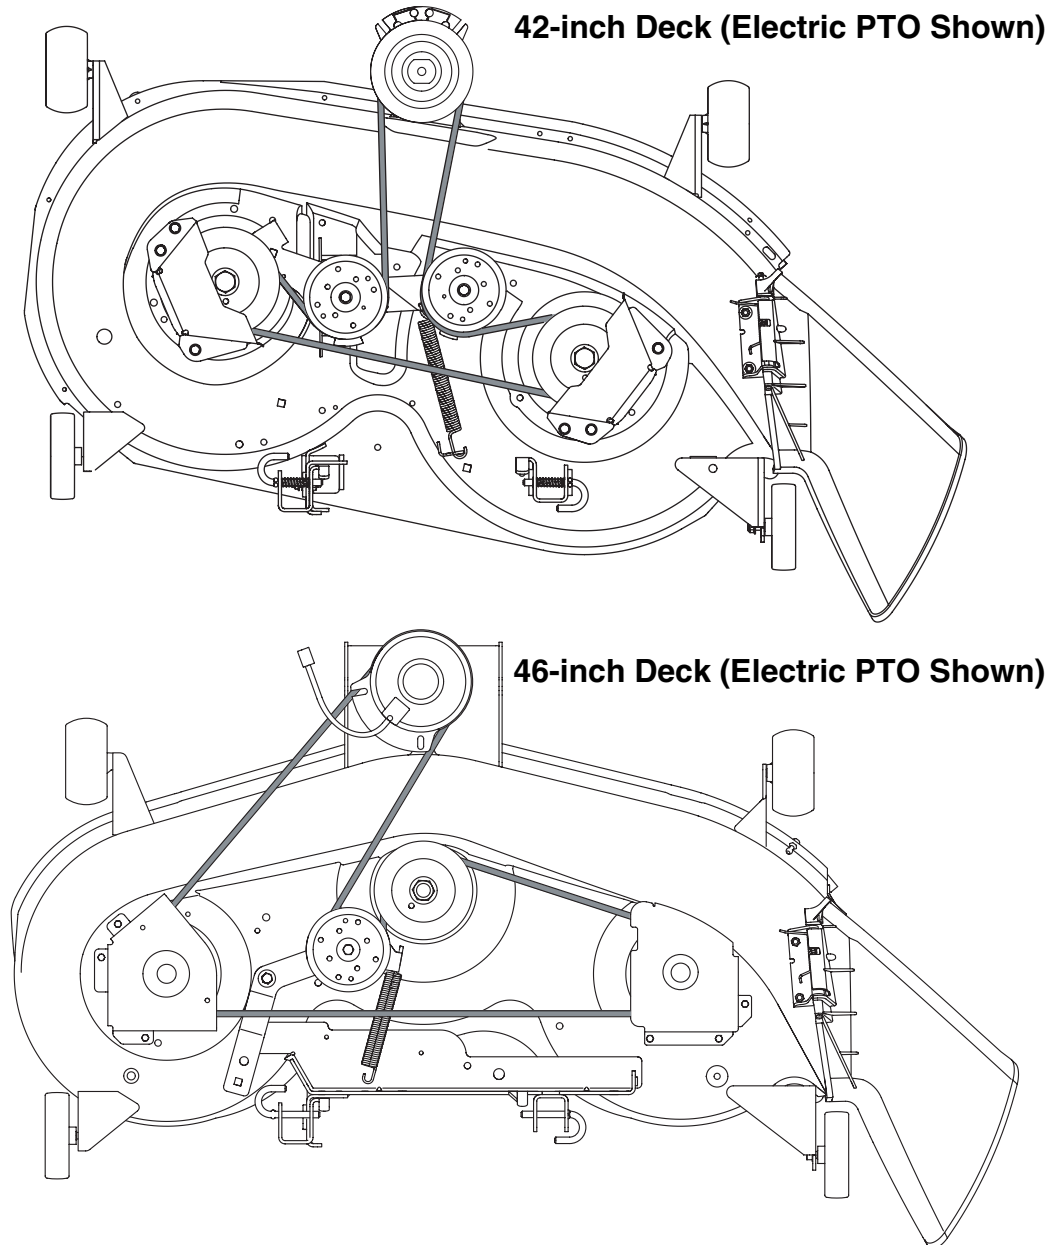

Figure 21
- Grasp the rearmost portion of the PTO idler bracket and pivot it toward the discharge chute to relieve tension on the PTO belt. See Figure 21.
- Route the new belts (deck belt first) as shown in Figure 21.